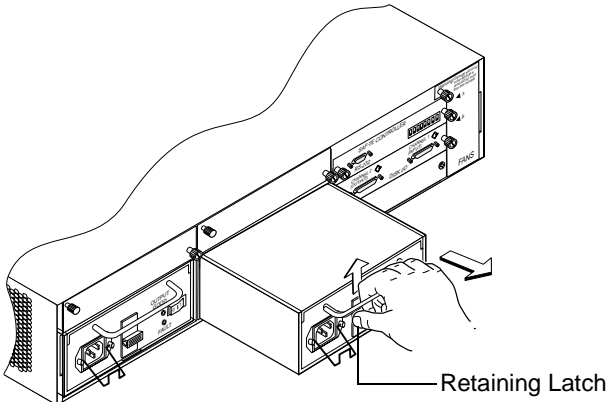

Figure 5-8. Removing a PSU
- 3 Grasp the PSU handle with one hand, lift the retaining latch with your thumb, and pull the PSU from the storage enclosure. See Figure 5-8.